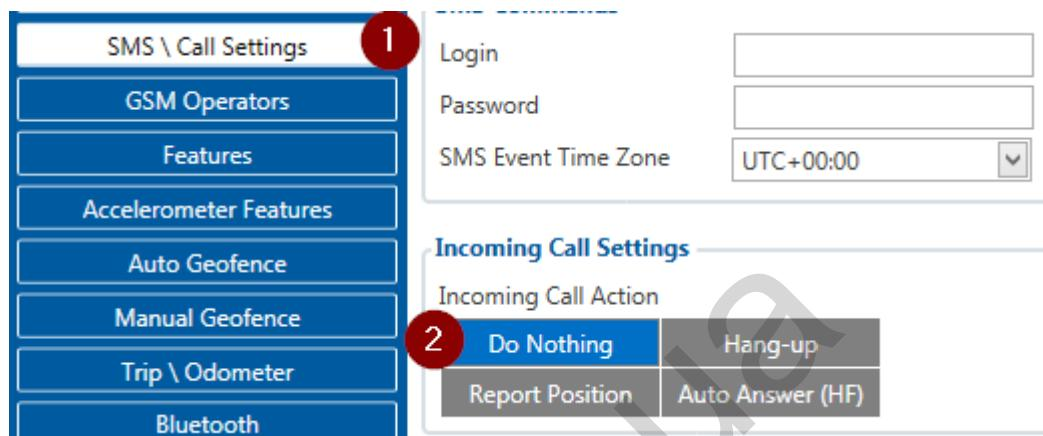

Figure 44 Incoming Call Action settings
- Go to “SMS \ Call Settings” in left menu and set “Incomming Call Action” to “Do Nothing” visible at **Figure 44**.